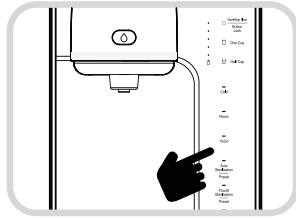

Fig. 9
1. Press the Energy Save/Clock (Setup) button for three (3) seconds in the Waiting Status. The Voice Guide will say "selecting user setting mode" "user setting mode, please set function by pressing the Illuminated button".
2. Select the Mood Lamp function by pressing the Voice button. (Fig. 9).